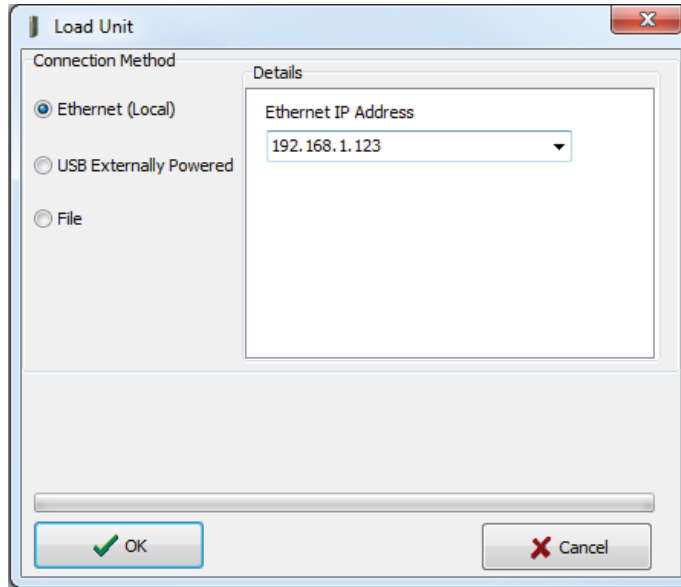

Figure 34 Load Unit
- Load Unit** Allows you to read the configuration data from the module radio and load it into MConfig, replacing the configuration currently in MConfig for this module (see Figure 34). Select the method that will be used to read the configuration data from the module: